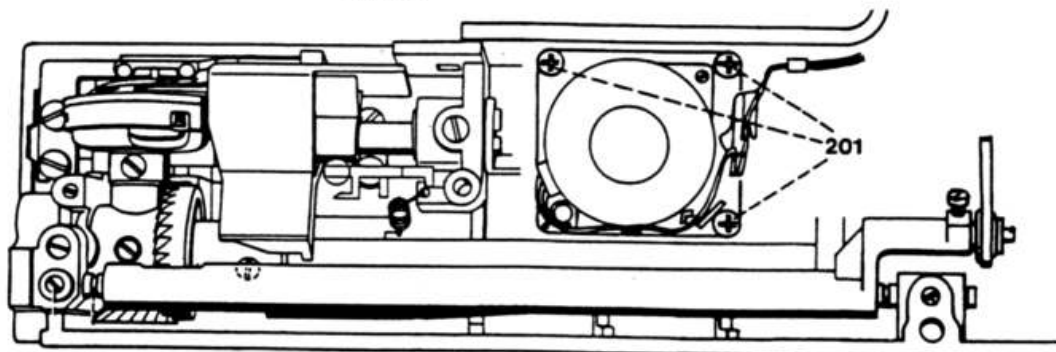

Fig. 39b
- Insert the complete buttonhole sensor with the pressure spring (fig. 39b).